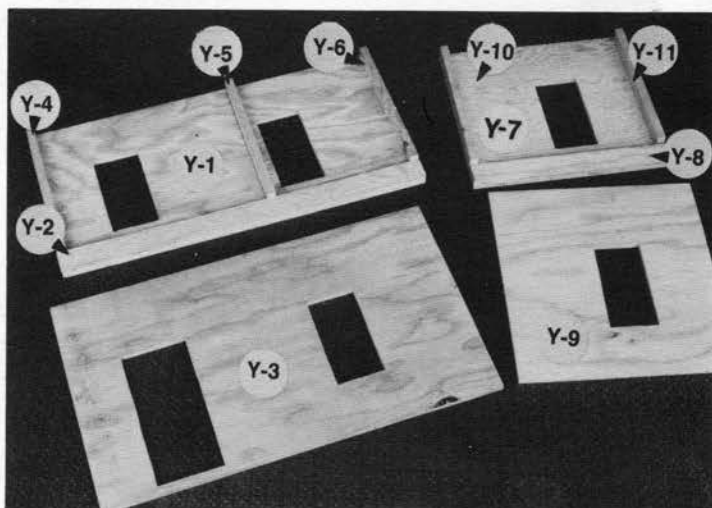

Fig. 2
STEP 2: Install (with glue and nails), parts Y-2 onto Y-1, mount it, flush at the bottom edge and each end. Then install Y-4, Y-5, and Y-6 as marked on the cutting lay-out. Now in similar procedure install Y-8 onto Y-7. Now Y-10 and Y-11 as shown in (FIGURE 2).